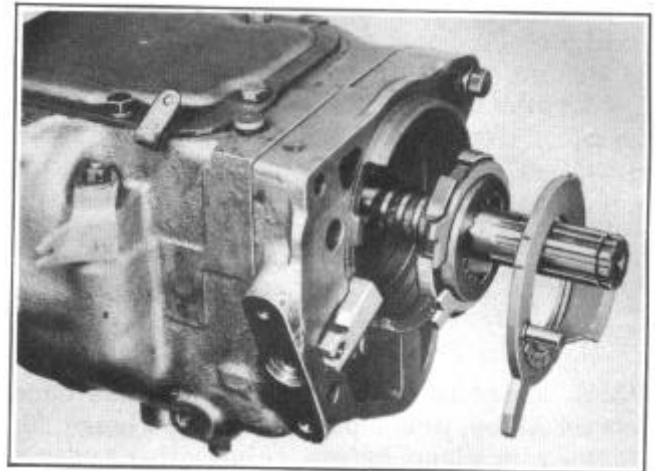

FIGURE 21
1. Position the adaptor plate and fasten the adaptor to the transmission case and install the solenoid pawl, sun gear control plate and blocker assembly, Figure 21.